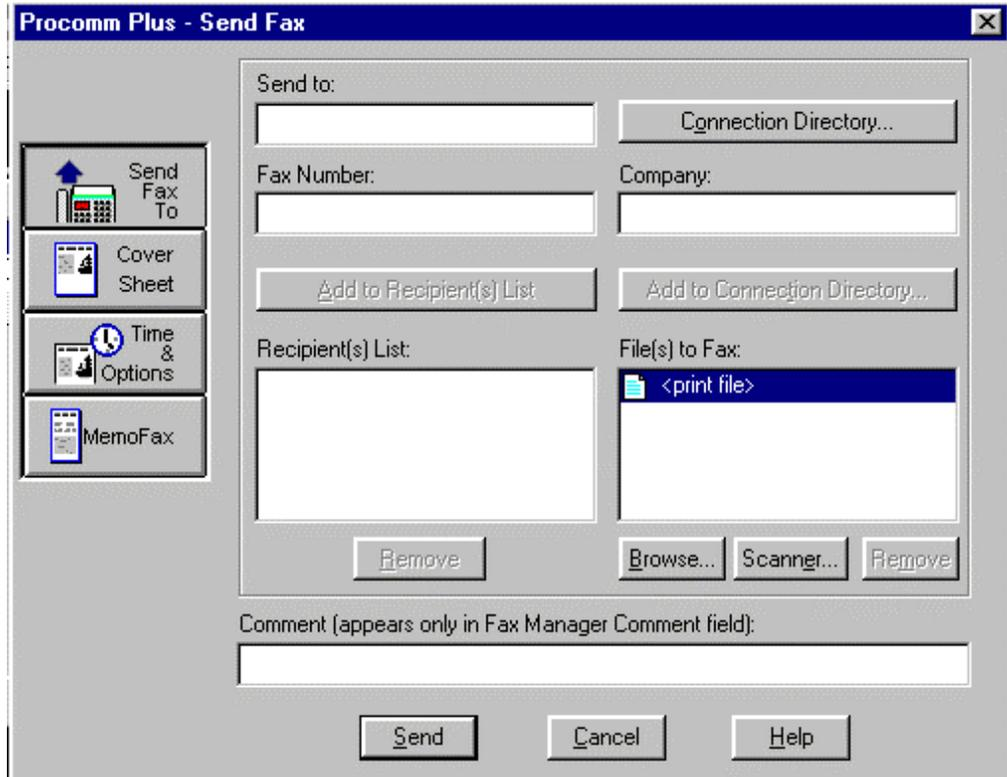

Figure 28 ProComm Plus – Send Fax
- This will bring up the **ProComm Plus – Send Fax** on-screen form as shown in Figure 28.